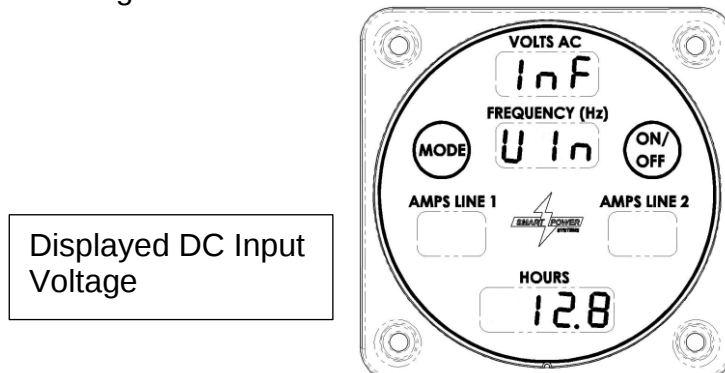

Figure 20 – DC Input Voltage Display
- c. DC supply voltage as measured by the generator system controller will be displayed next in the hours field by pressing the Mode switch a third time as seen in Figure 20.